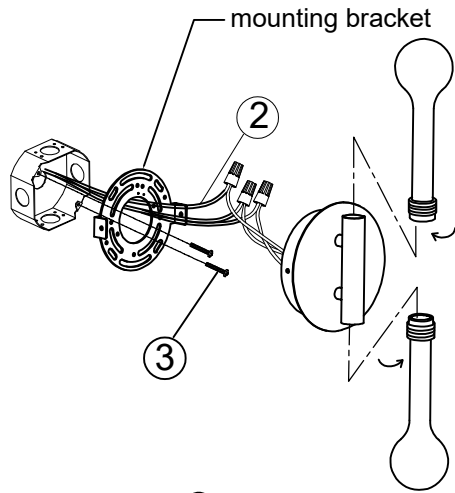

Fig.1
2. Insert the KD glass into the lamp arm and tighten it clockwise (Fig.1).
3. Feed the wires from wall through mounting bracket (Fig.1).